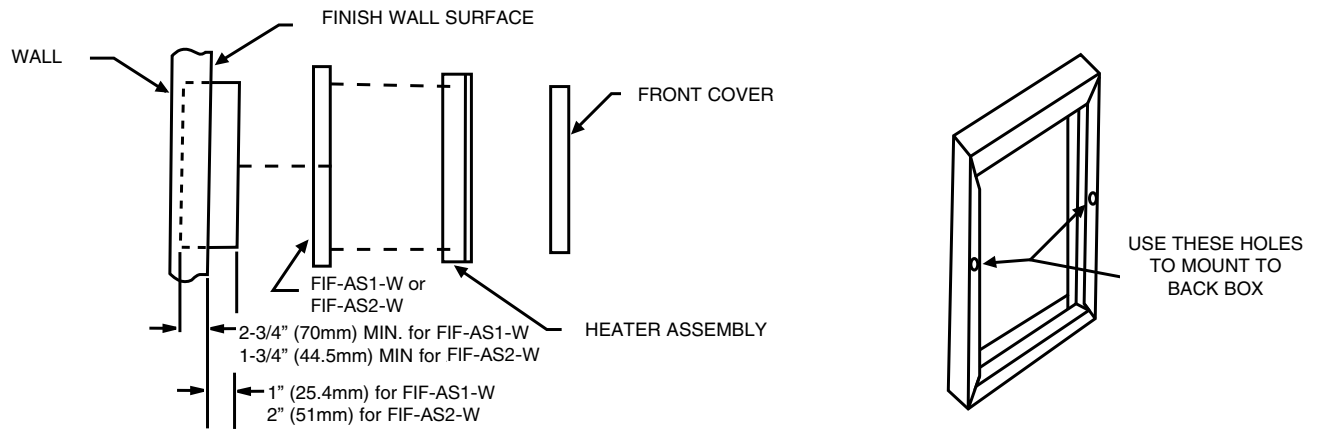

FIGURE 2
1. When using the FIF-AS1-W the front edge of the back box must extend 1" (25.4 mm) beyond the finished wall surface. When using the FIF-AS2-W the front edge of the back box must extend 2" (51 mm) beyond the finished wall surface (See Figure 2).
1. Position the semi-recessed sleeve on the back box and attach with two (2) #6 X 3/8" (3.5 mm X 9.5 mm) screws (provided) through holes as indicated in Figure 2.